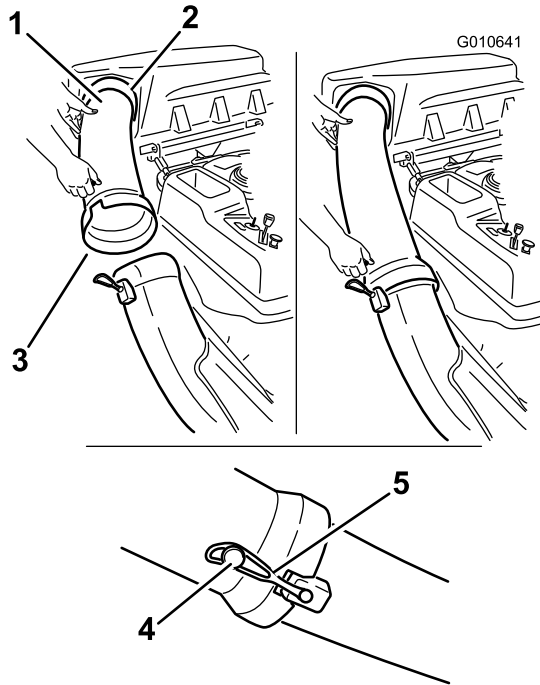

Figure 14
1. Slide the curved end of the discharge tube into the opening in the bagger top (Figure 14).
2. Slide the flared end of the discharge tube over the end of the chute. Move the rubber retaining strap on the chute snaps over the peg on the discharge tube to secure it (Figure 14).